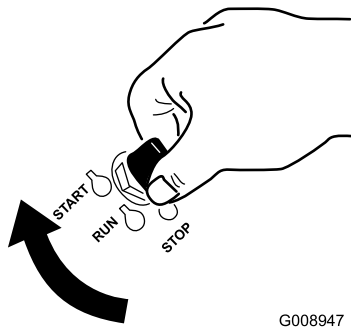

Figure 17
1. Turn the ignition key to the Start position (Figure 17). When the engine starts, release the key.
7. Turn the ignition key to the Start position (Figure 17). When the engines starts, release the key.